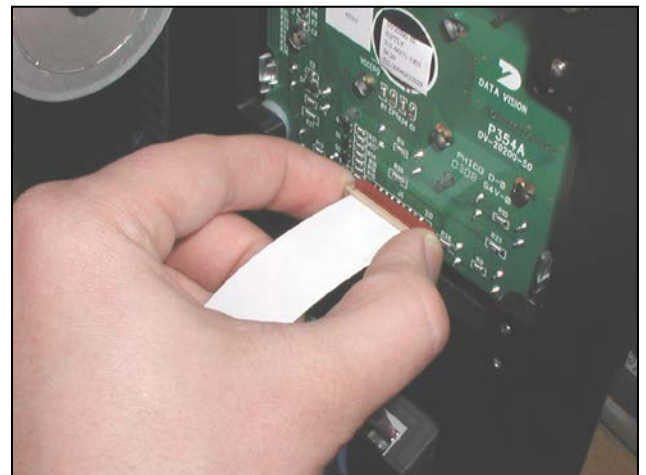

Figure 3-134. White Ribbon Cable Lock
2. Remove the White Ribbon Cable from the back of the Display (Figure 3-134).